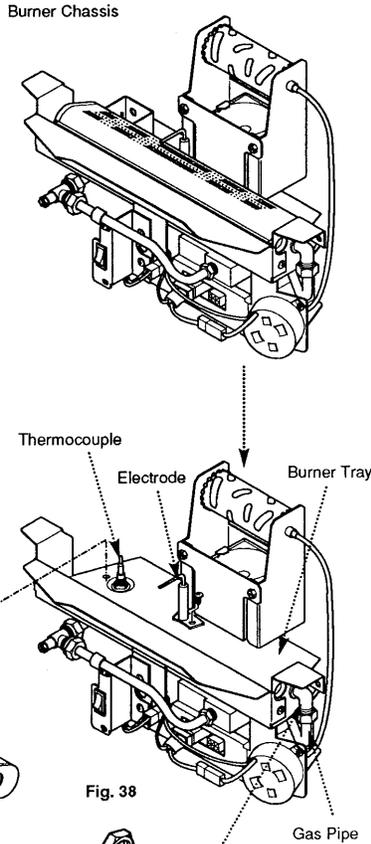

Fig. 39
2. Undo the screw retaining the burner to the burner tray (Fig. 39).